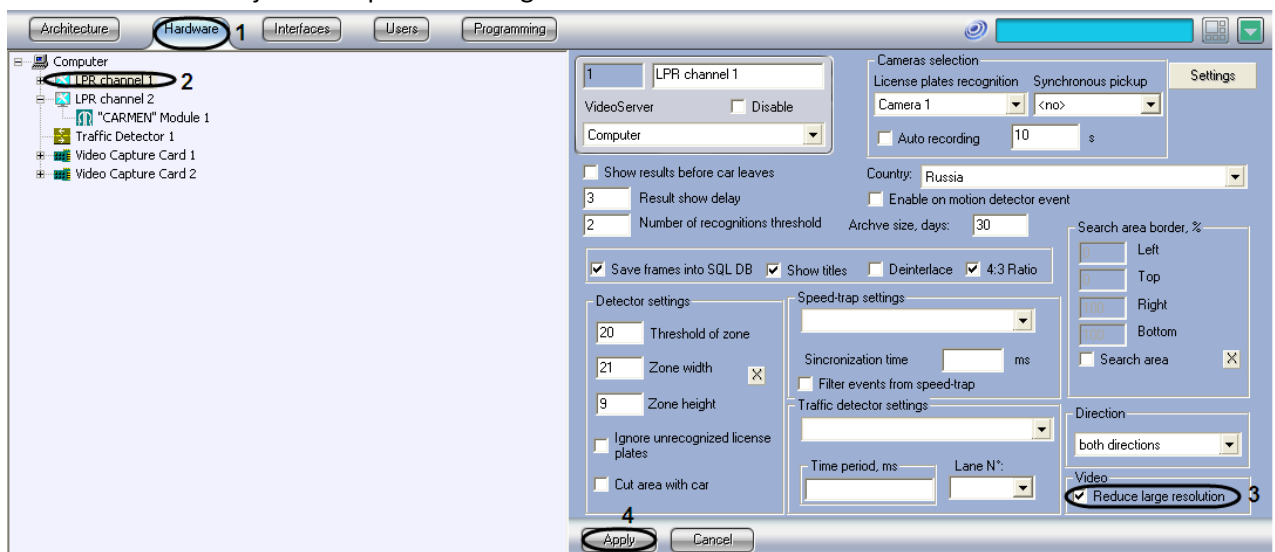

Fig. 7.2-28 Frame processing setup
2. In the object tree of the Hardware tab, select the LPR channel, corresponding to the activated Auto-Uragan3.3.5.18, CARMEN-parking, CARMEN-Auto or ACCR program module (see. «Program module activation, used for Plates identification», Fig. 7.2-28, 2). The settings panel of the selected object will open on the right side of the window.